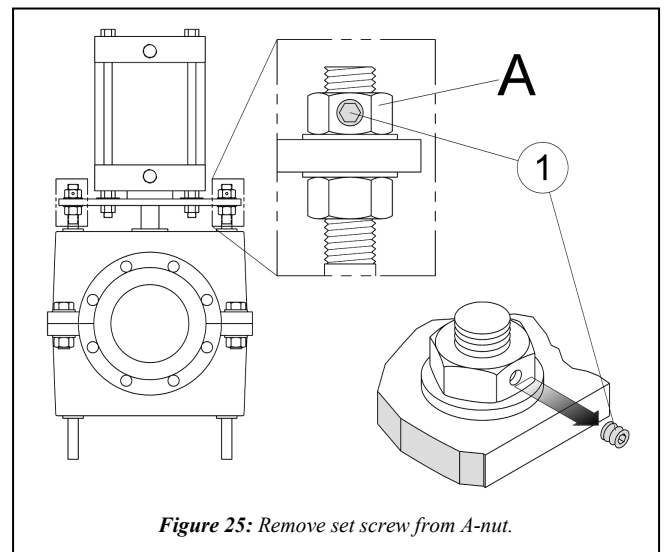

Figure 25: Remove set screw from A-nut.
STEP 2: Remove the set screw ① from each A-nut and cut/scrape away as much as possible the rubber coating above each A-nut (Fig. 25).